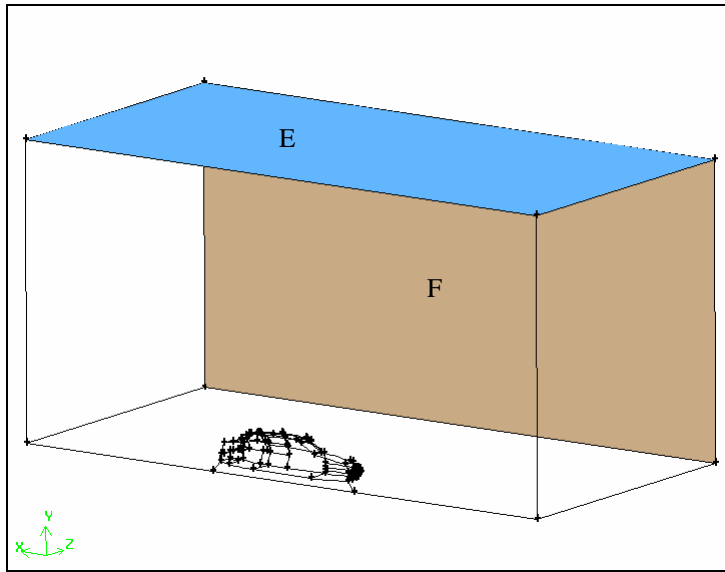

Figure 5-31: Two symmetry boundaries for the sedan geometry
- iii. Select the faces on the brick that are above and to the side of the sedan (the faces marked E and F in Figure 5-31) and accept the selection.